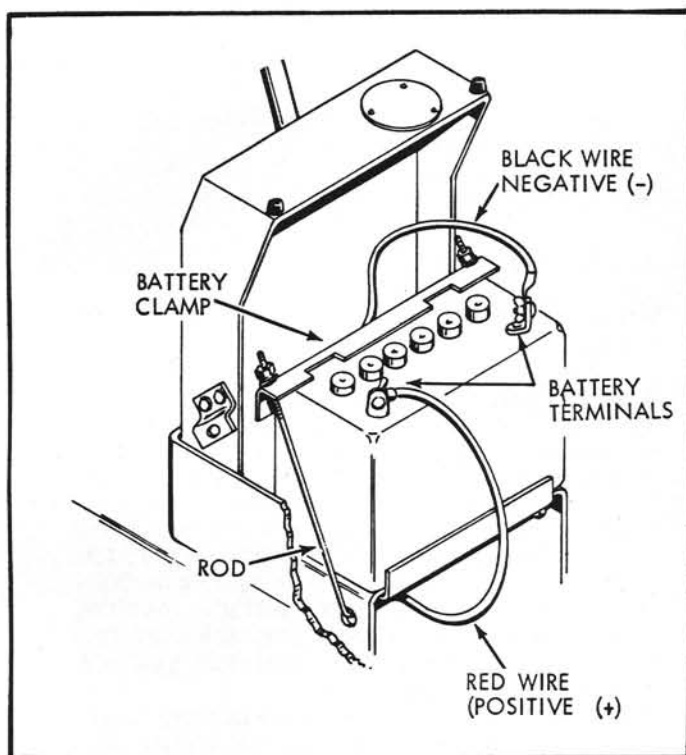

Figure 15.
7. Insert filler caps into filler holes and place battery on shelf in front of the instrument panel. **BATTERY TERMINALS MUST BE TOWARD FRONT OF TRACTOR (See Fig. 15).**
9. Next, connect the two battery cables to the battery terminals (See Fig. 15). The cable that is attached to the tractor chassis is the ground cable (black in color) and is connected to the negative (-) battery terminal in the following manner: Remove the wing nut from the carriage bolt and place cable eye on threads of the bolt. Secure cable eye in place with the wing nut just removed.